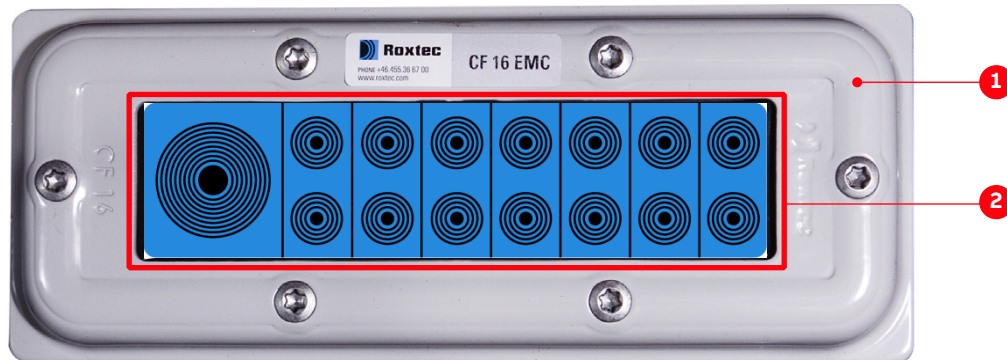

Figure 7-5: Type 2 sealing modules example
- **Included in delivery:** frame (1 in Fig. 7-5)
- **Not included in delivery:** tools, accessories and EMC sealing modules (2 in Fig. 7-5)